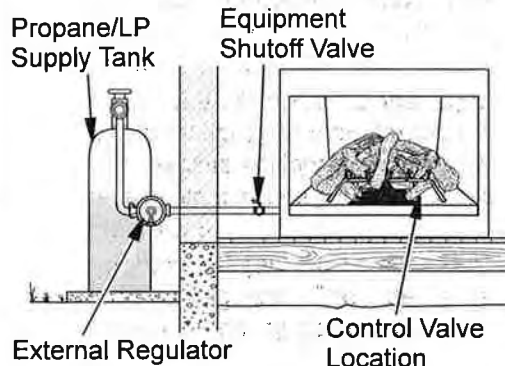

Figure 11 - Checking Gas Joints for Propane/LP Gas
3. Check all joints from gas meter to equipment shutoff valve for natural gas or propane/LP supply to equipment shutoff valve for propane/LP (see Figure 11 or 12). Apply a noncorrosive leak detection fluid to all joints. Bubbles forming show a leak.
4. Check all joints from equipment shutoff valve to control valve (see Figure 11 or 12). Apply a noncorrosive leak detection fluid to all joints. Bubbles forming show a leak.